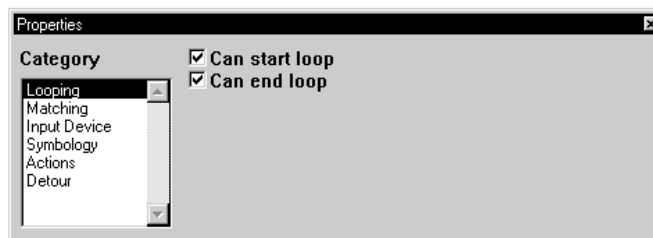

Figure 4-42 Properties Window
15. The **Properties** window opens (Figure 4-42).